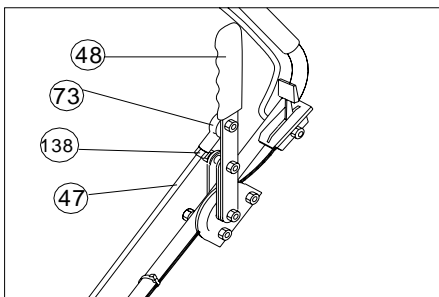
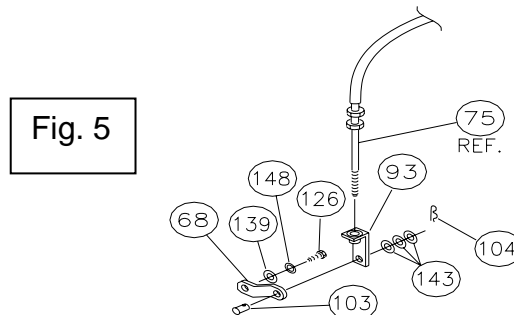

Fig. 1
Fig. 5
1. **UPPER HANDLE (item 41).** Assemble securely to lower handle stubs (item 37) and handle brace (item 36), using screws (item 120 & 121), so that screw heads are on inside of handle. Otherwise, premature bag wear could result.
2. **NOZZLE DOOR CONTROLS.** Assemble ball joints (item 73), jam nuts (item 138), to both ends of rod (item 47). *Do not fully tighten jam nuts.*
Using screw (item 113), washer (item 143) and lock nut (item 131), connect one end of rod (item 47) to nozzle door mounting. (See Figure 5). Using rod, pull nozzle door open horizontal to ground and hold opposite end of rod next to mounting hole on remote lever (item 48), already assembled onto upper handle. (See Figure 1). If necessary, adjust rod length using threads provided on rod. Adjust rod length to give a minimum of 1.0" (25.4 mm) hand clearance between lever & maximum forward throttle position when door is open. Assemble upper end of rod to lever on handle using same hardware item numbers as shown above. (See figure 1 & 2). Tighten jam nuts.